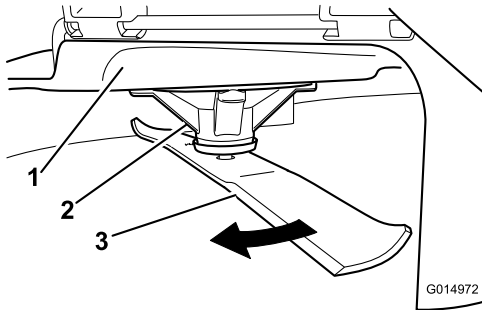

Figure 59
2. While wearing thickly padded gloves, or other adequate hand protection, slowly rotate the blade into a position that allows you to measure the distance between the cutting edge and the level surface the machine is on (Figure 59).